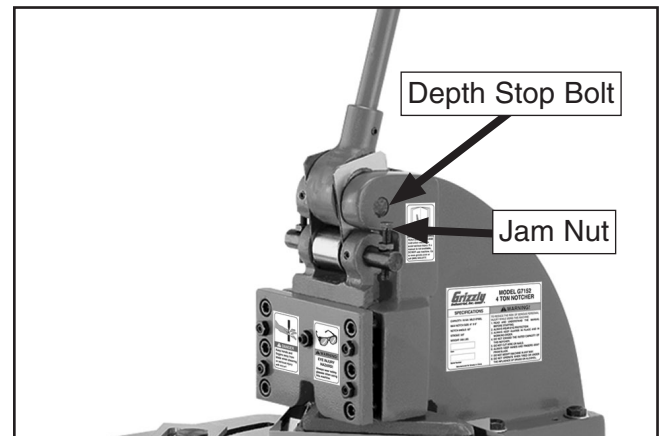

Figure 17. Depth stop adjustment.
1. Loosen the jam nuts on the depth stop bolts (**Figure 17**)